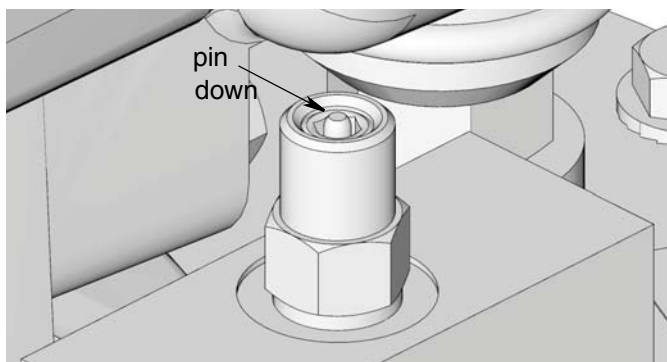

FIG. 18
2. Verify the Auto-Fill Shut Off (S) pin is down, indicating it is reset (FIG. 18).